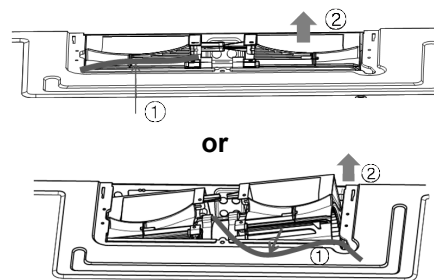

Figure 14
2. Carefully lift the blower unit out of the microwave oven. See Figure 14.